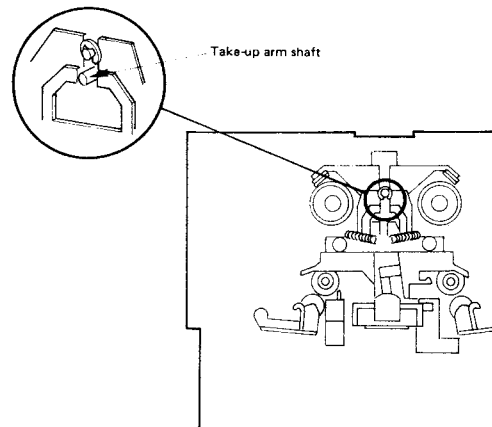
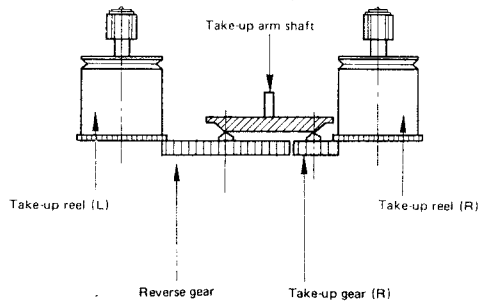

Fig. 29
Fig. 27
3) Take out take-up arm operating shaft (Shown in Fig. 27) from the hole on the playback plate as shown in Fig. 29, and fix the gear assembly using screws.